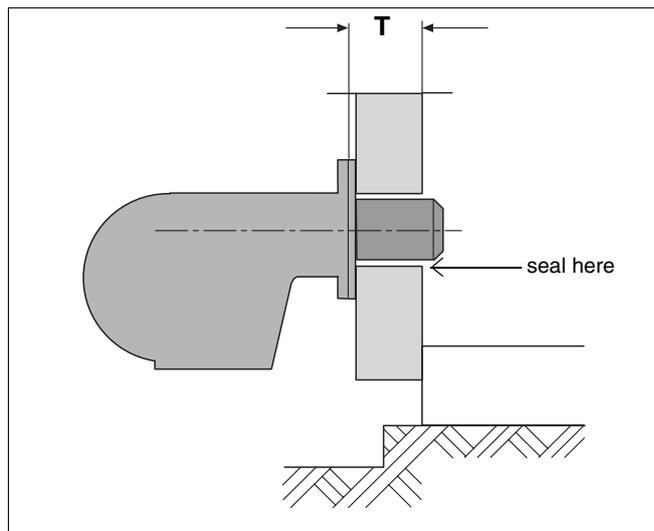

Fig. 22 Schematic diagram of the door depth T
- Observe the door depth T (Fig. 22; see also Tab. 4).